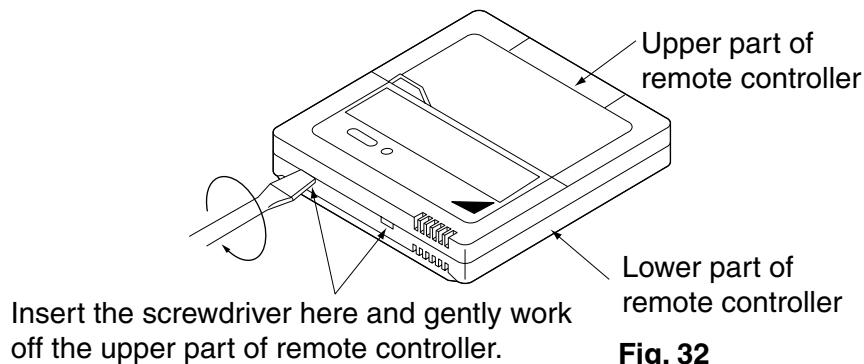

Fig. 32
- (1) Insert a \ominus screwdriver into the recess between the upper and lower part of remote controller and, working from the 2 positions, pry off the upper part. (The remote controller PC board is attached to the upper part of remote controller.) (Refer to Fig. 32)